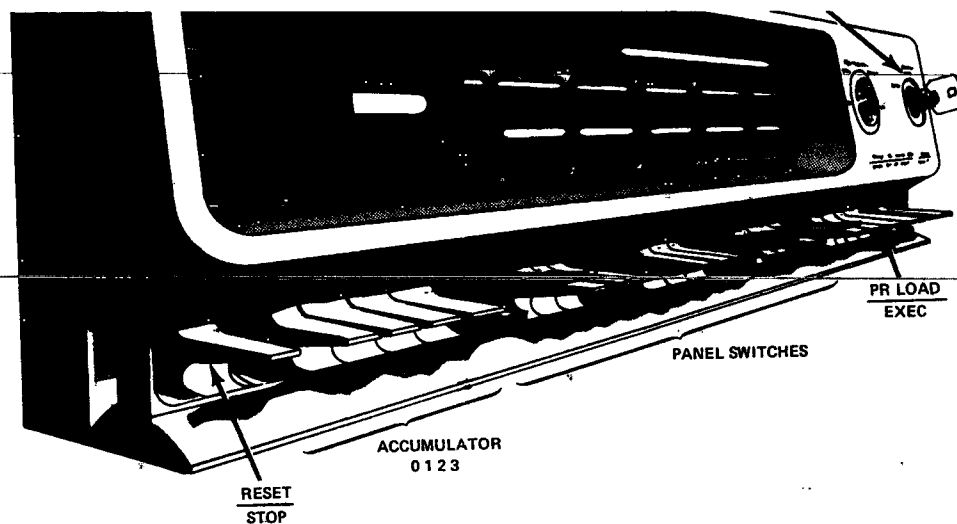

Figure 2-1. Eclipse console
2. At the computer console (figure 2-1):